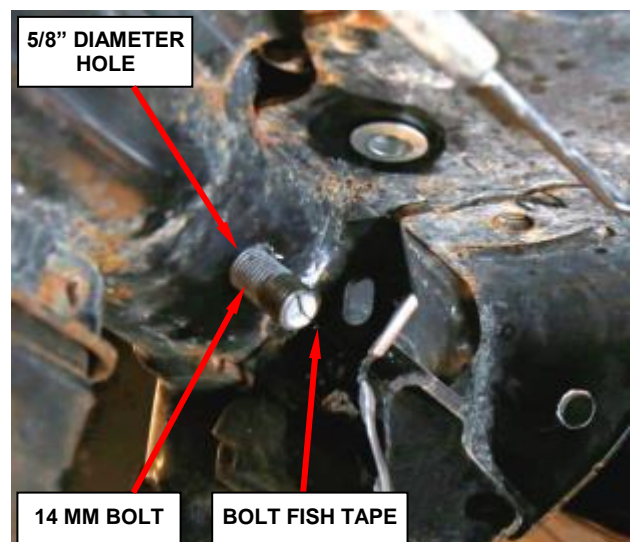

Figure 19 – 14 MM Bolt in 5/8” Diameter Hole Location
35. Carefully pull the “bolt fish tape” until the 14 mm bolt is seated in the 5/8” frame hole (Figure 19).